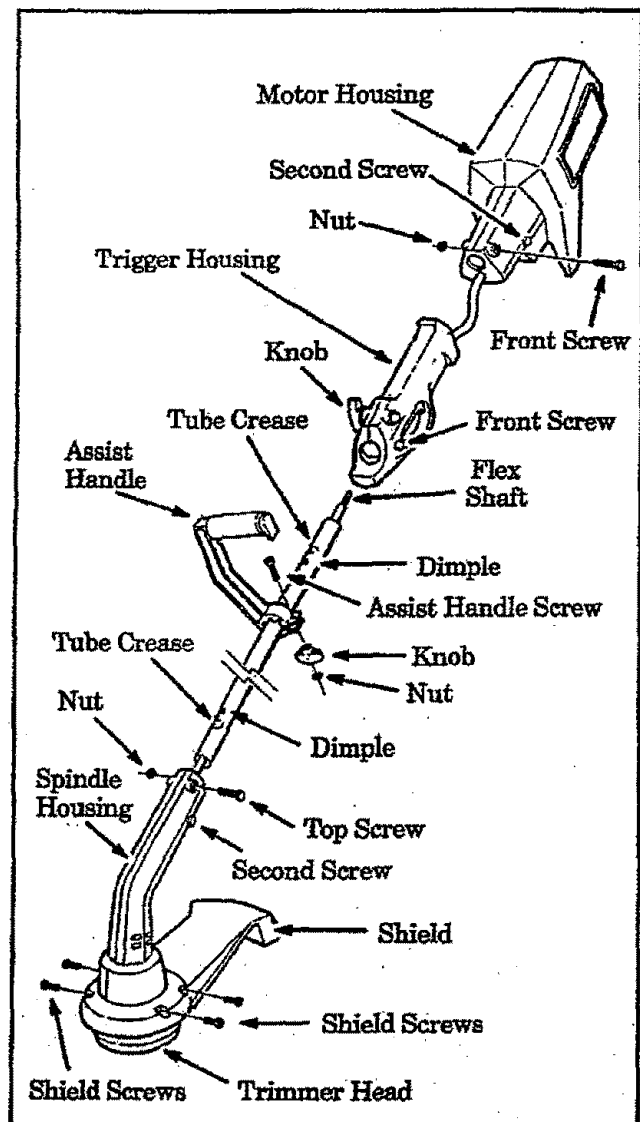

Figure 1
The shield must be properly installed. The shield reduces the risk of injury from thrown objects. Failure to install the shield in the position shown in Figure 1 can result in injury to the operator or others. Carefully follow assembly instructions when attaching shield to unit. The operator should always wear eye protection.
2. Remove the top screw and nut in the spindle housing and loosen the second screw. Figure 1.
3. Insert the flex shaft through either end of the tube. Figure 1.
4. Position the crease in the end of the tube as shown in Figure 1. Slide the tube into the spindle housing until the crease is aligned with the top screw hole in the spindle housing.
NOTE: The dimple in the tube (Figure 1) will no longer be visible if tube is fully inserted.
6. Place the shield over the flex shaft, then over the spindle housing. Figure 1. Slide the shield into position. Figure 1.
8. Thread the screws into the spindle housing. Figure 1. Tighten screws securely.
1. Slide the assist handle onto the tube (approximately halfway down the tube). Figure 1.
2. Insert the bolt through the bolt hole in the assist handle. Figure 1.
3. Place the washer on the bolt, then thread the knob onto the bolt. Figure 1. Tighten the knob just enough to hold the parts together.
1. Loosen knob and front screw on the trigger housing. Figure 1.
2. Remove the front screw and nut in the motor housing and loosen the second screw. Figure 1.
3. Insert the tube through the trigger housing assembly. Figure 1. Then slide the tube into the motor housing.
4. Align the crease in the tube with the front screw hole in the motor housing. Figure 1.
6. Adjust the trigger housing and assist handle for balance and comfort. Securely tighten the knobs and screws. Figure 1.